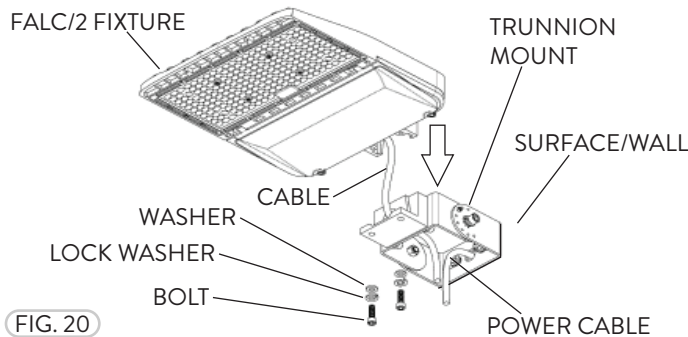

FIG. 20
- 3 Install the FALC/2 fixture to the Trunnion Mount. Slide the fixture Cable carefully through the Trunnion Mount. Attach the Fixture Cable to the Power Cable (Fig. 20).